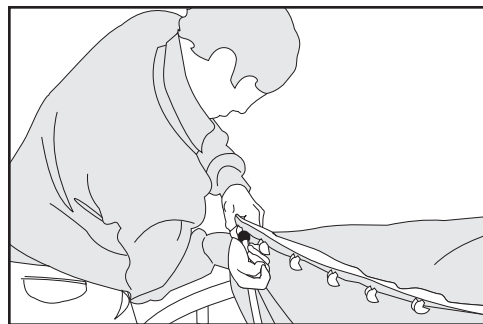

Figure 3: Preferred rod bending technique
1. To release each rod, push the clip lever towards the mat centre, and hold (Figures 1 and 2). Then push the ball end of the rod towards the mat centre to disengage it from the socket (Figure 3).
Tip: One method to release a rod is to grip a pair of rods with the right hand while releasing the clip of the upper rod with the left hand. Now by tightening the grip on the two rods the upper rod ball slips out of the socket, while the rod is still held firmly in the hand. From there, the rod can be freed in a safe and controlled manner (Figure 3).